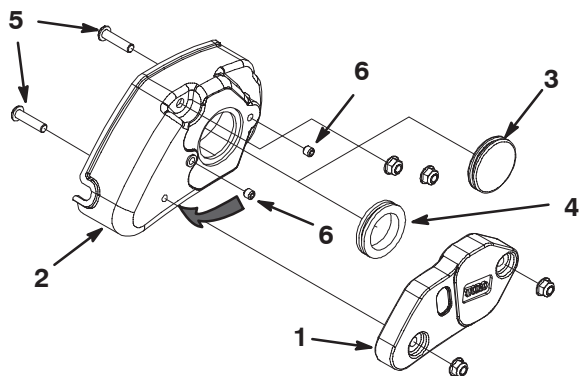

Figure 19
2. Remove the (2) 5/16 inch flange nuts securing the groomer weight to the groomer cover and remove the weight (Fig. 19).
3. Remove the solid grommet from the cover and replace it with the rubber grommet ring (Fig. 19).
4. Remove the (2) 5/16 x 1-1/4 inch screws threaded into the cover (Fig. 19).
5. Remove the set screw from the center hole in the groomer cover (Fig. 19). Install this set screw and the set screw included with the Groomer kit, into the holes previously used for the cover mounting screws. Apply 242 Loctite (blue) to the set screws prior to installation. The set screws are to be flush with the groomer cover.